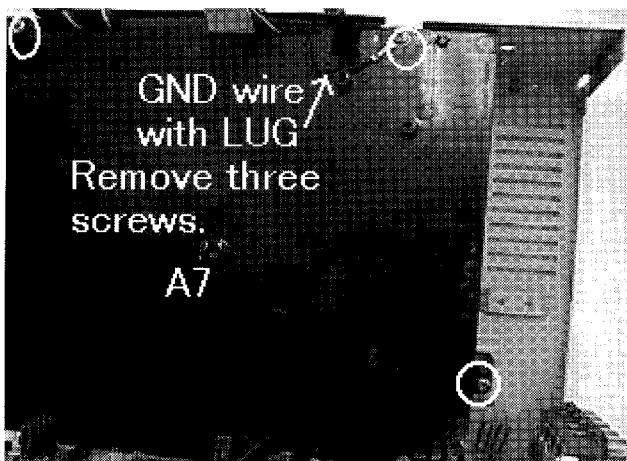
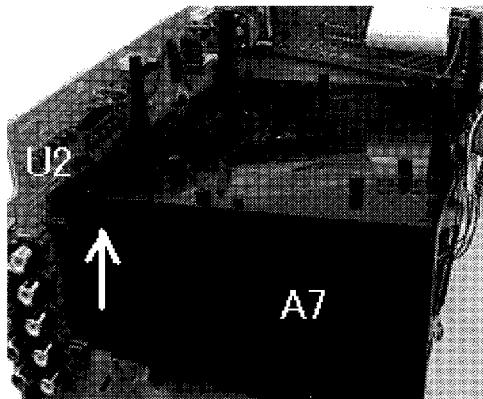

Fig. 7
Fig. 8
12. Remove three Screws which is fixing Holder(MEC)(A7). (See Fig. 7.) When you remove Holder, it is easy to pull back it together with U2. (See Fig. 8.)